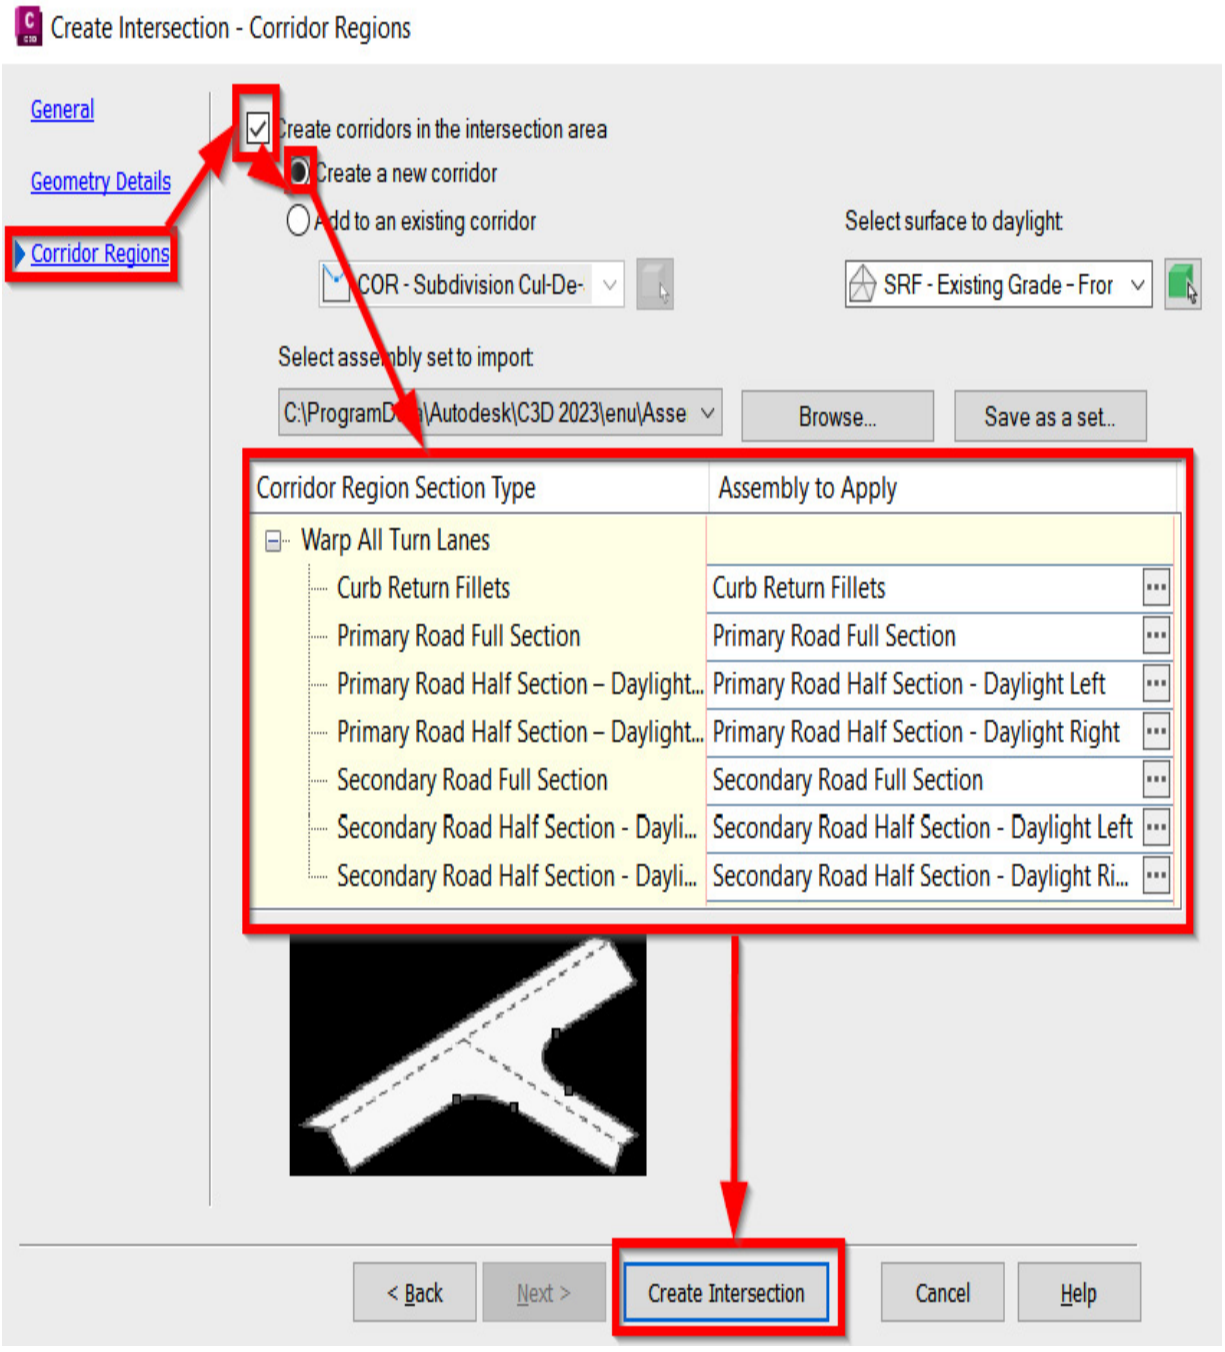

Figure 10.33 – Create Intersection | Corridor Regions
5. Next, let's fill in the fields in the **Corridor Regions** tab as follows (also displayed in *Figure 10.33*) and select the